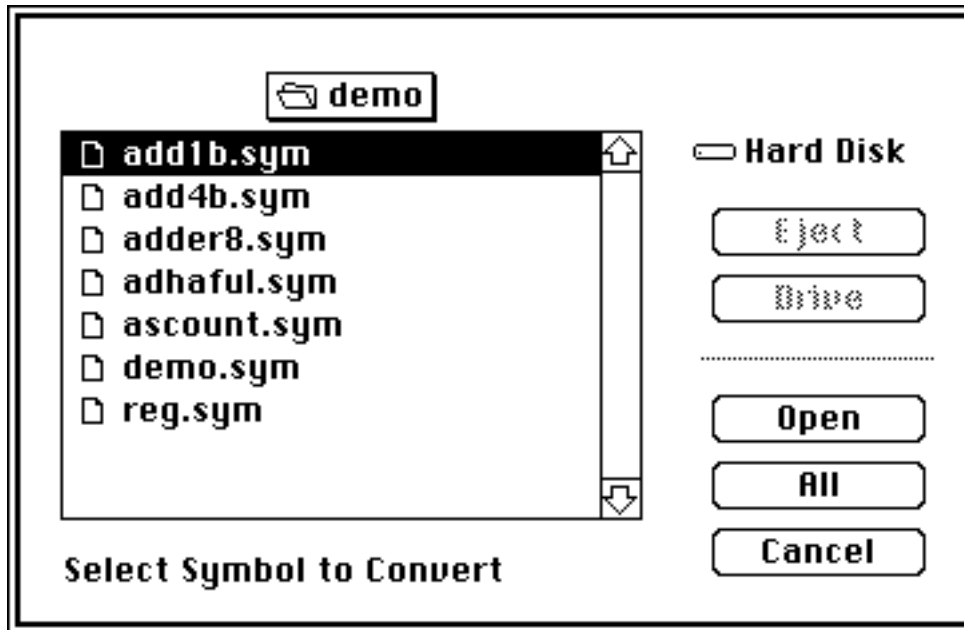

Figure ASCII-2 Dialog Box for SYM to ASCII
1. Double-click on the desired application in the main ECS folder. This invokes the application and pops up a dialog box as shown in Figure ASCII-2.